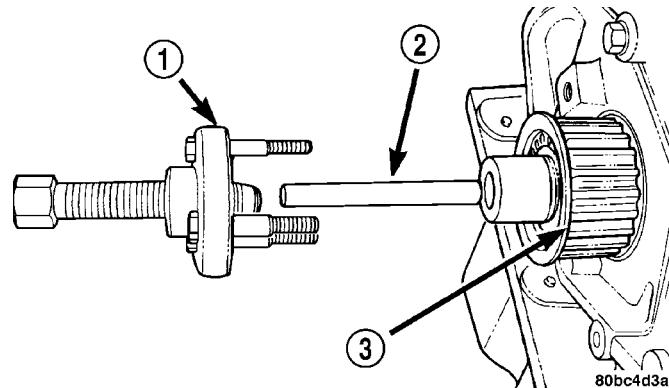

Fig. 52 Crankshaft Sprocket - Removal
(1) Remove the crankshaft vibration damper. (Refer to 9 - ENGINE/ENGINE BLOCK/VIBRATION DAMPER - REMOVAL)
(2) Remove timing belt. (Refer to 9 - ENGINE/VALVE TIMING/TIMING BELT/CHAIN AND SPROCKETS - REMOVAL)
(3) Remove crankshaft sprocket using Special Tool 6793 and insert C-4685-C2 (Fig. 52).